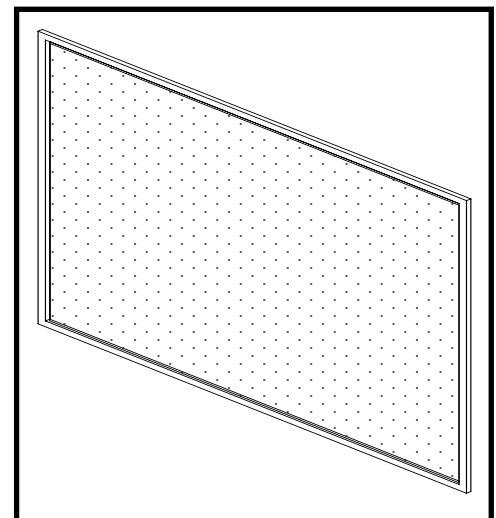

Figure 64: Safety barrier screen.
- Attach the magnetic safety barrier screen (Figure 64) to the outer-most door frame.